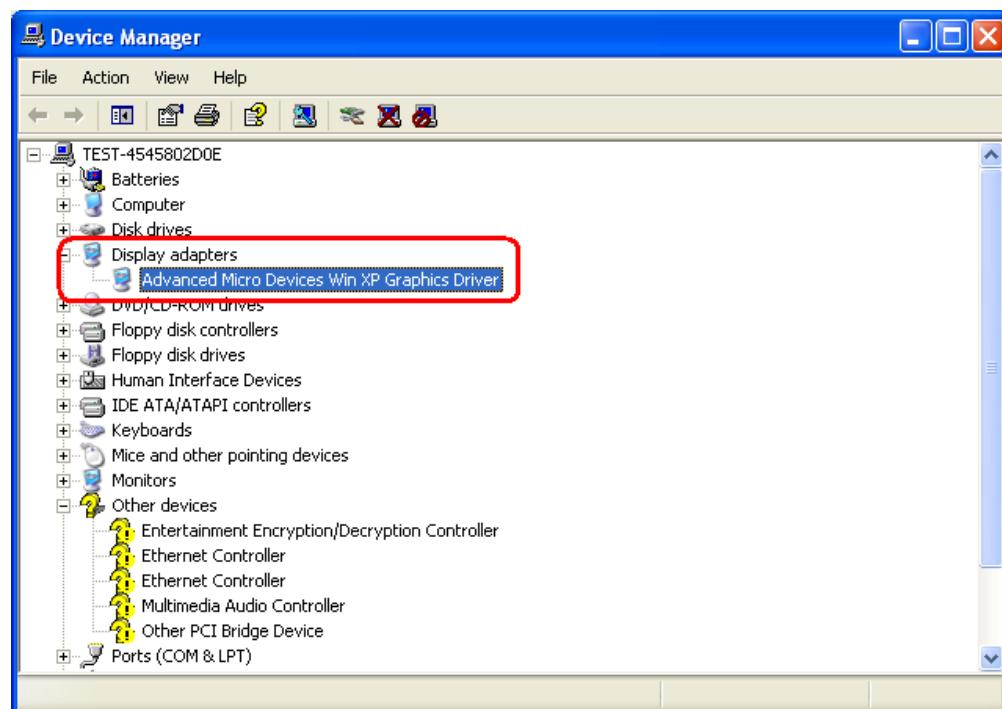

Figure 7-15: Device Manager Update
Step 27: The Device Manager refreshes and the Graphics Driver can be seen in the Display adapters option. See **Figure 7-15**.